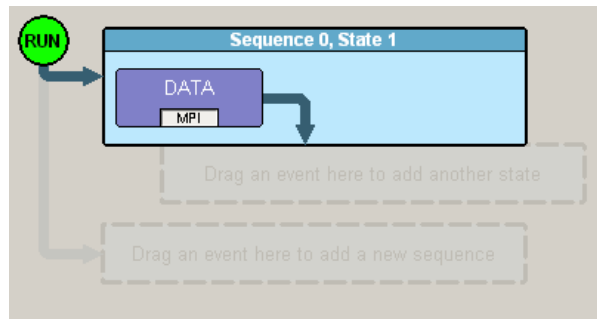

Figure 12.40 Example 5: Dragging to the Second State Cell
Step 7 Drag-and-drop the Timer button into the second cell in the Main Display area (Figure 12.40).